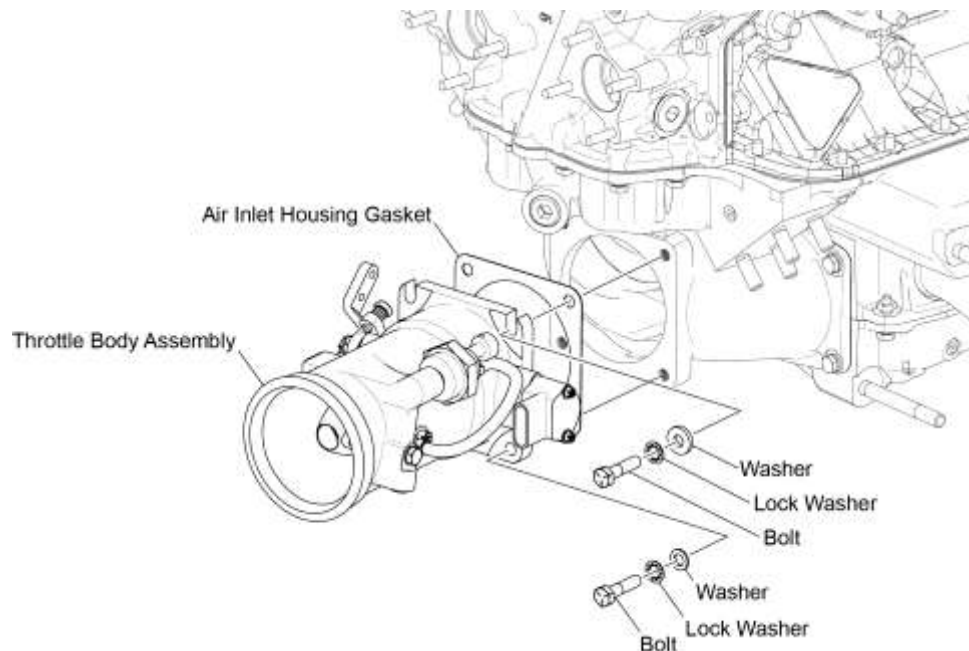

Figure 1
- (1) Disconnect the battery.
- (2) Remove the harness connections from the Throttle Position Sensor (Figure 1) and Delta Pressure Sensor.
- (3) Remove the throttle cable from throttle input lever.
- (4) Remove the two bolts, washers, and lock washers, from the top aft end of the throttle body. Refer to Figure 1. Discard the lock washers.
- (5) Loosen the two bolts, washers, and lock washers, from the top forward end (closest to the engine) of the throttle body. Refer to Figure 1. Discard the lock washers.
- (6) Loosen the two bolts, thick washers, and lock washers, from the bottom aft end of the throttle body. Refer to Figure 1.
- (7) Loosen the two bolts, thick washers, and lock washers from the bottom forward end (closest to the engine) of the throttle body. Refer to Figure 1.
- (8) Lift the throttle body up far enough for the bolt slots to clear the bolts loosened in the previous two steps.
- (9) Remove the throttle body and the bolts, thick washers, and lock washers loosened in the earlier steps. Discard the lock washers.
(10) Label the location of the two gaskets (Figure 1) for reference. Remove and discard the two gaskets, one from each end of the throttle body.